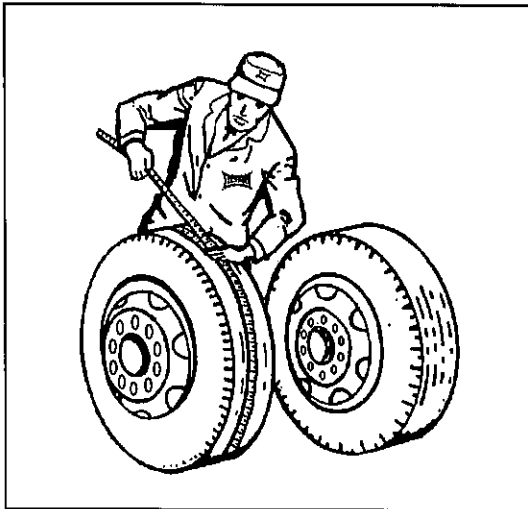

Fig. 4-17 Measuring Tape Method
**a. Tape Measuring Method:** Measure around each tire on the tread surface. A maximum difference of 3/4" is allowed between the two mating tires of a dual (See **Figure 4-17**).